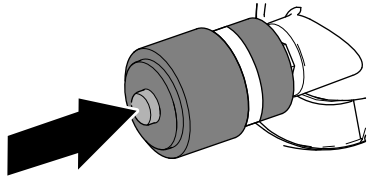

Figure 116
1. If a red band displays in the service indicator, press the reset button at the end of the indicator (Figure 116).